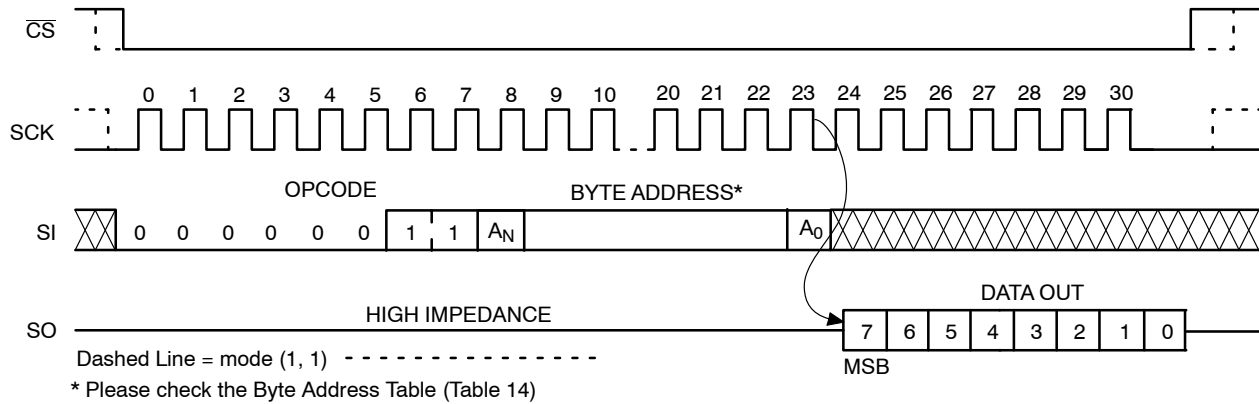

Figure 9. READ Timing
After receiving the last address bit, the CAT25128 will respond by shifting out data on the SO pin (as shown in Figure 9). Sequentially stored data can be read out by simply continuing to run the clock. The internal address pointer is automatically incremented to the next higher address as data is shifted out. After reaching the highest memory address, the address counter “rolls over” to the lowest memory address, and the read cycle can be continued indefinitely. The read operation is terminated by taking  $\overline{\text{CS}}$  high.
Reading the additional 64-byte Identification Page (IP) is achieved using the same Read command sequence as used for Read from main memory array (Figure 9). **The IPL bit from the Status Register must be set (IPL = 1) before attempting to read from the IP.** The [A5:A0] are the address significant bits that point to the data byte shifted out on the SO pin. If the  $\overline{\text{CS}}$  continues to be held low, the internal